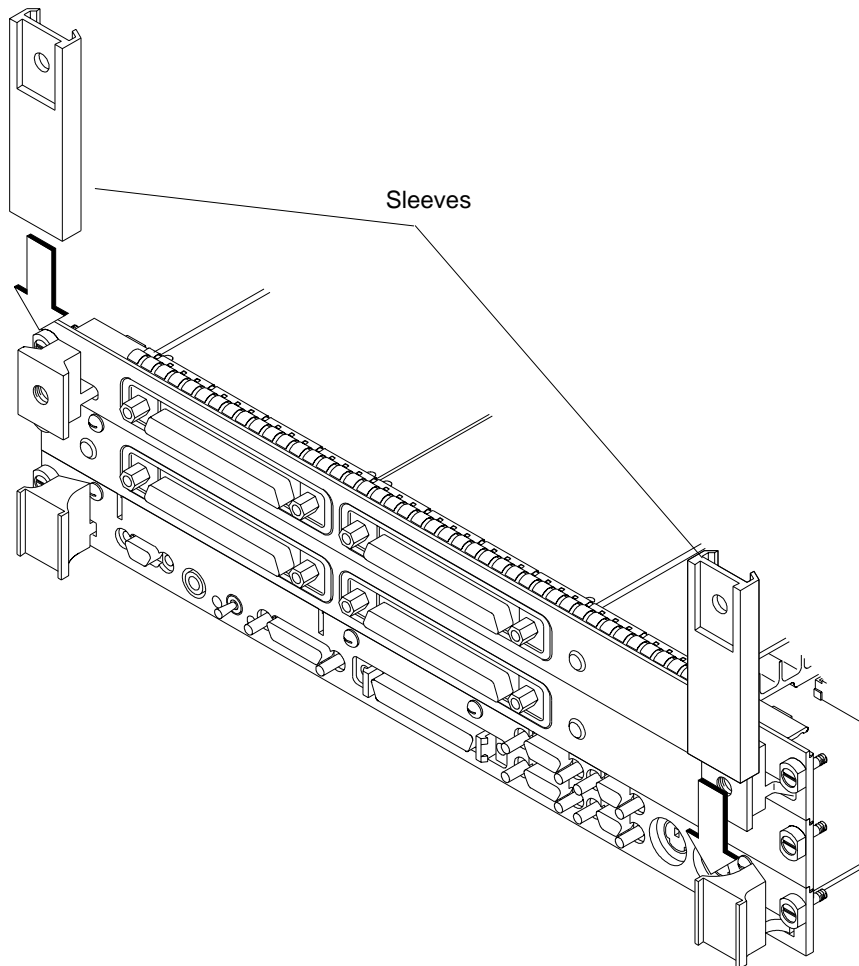

Figure 12 **Installing Ejector Handle Sleeves**
- b** Slide the sleeves over each set of handles, as shown in Figure 12.